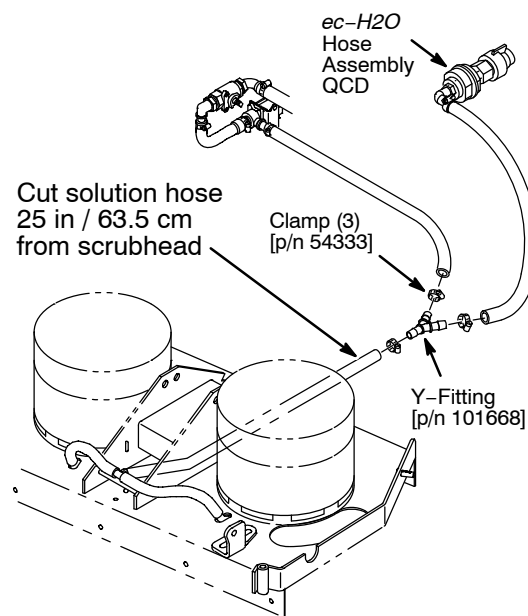

Fig. 41
4. Cut the machine's solution hose going to the scrubhead as specified and connect the *ec*-H₂O hose using Y-fitting [p/n 1010668] as shown (Figure 41).